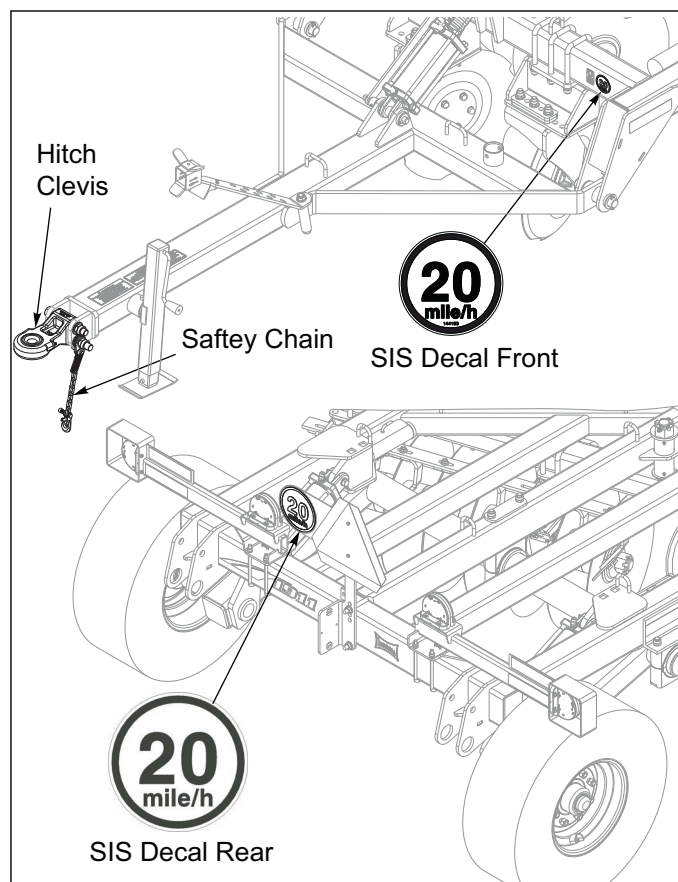

Figure 4-10: Hitch, Speed Identification Symbol, and Safety Chain
2. The 1911 should be transported only by tractor required for field operation. The implement weight should not exceed more than 1.5 times the tractor weight. Maximum transport speed for the 1911 is 20 mph for the implement and is designated on the speed identification symbol located on the front and rear of the implement *See Figure 4-10*.
- b. Attach the safety chain to the tractor drawbar *See Figure 4-10*. Provide only enough slack in the chain for turning. Do not use an intermediate chain support as the attaching point for the chain on the tractor. Do not pull the implement by the safety chain.